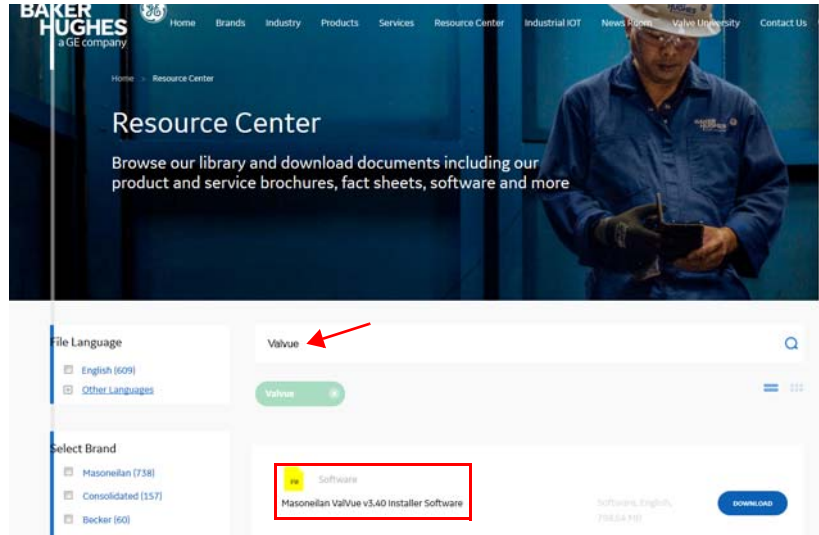

Figure 8 Download Center: Search for Valve 3
1. Go to the *Resource Library* (<https://valves.bhge.com/resource-center>) and enter *ValVue* in the search field (arrow in Figure 8).
The results appear (red box in Figure 8).